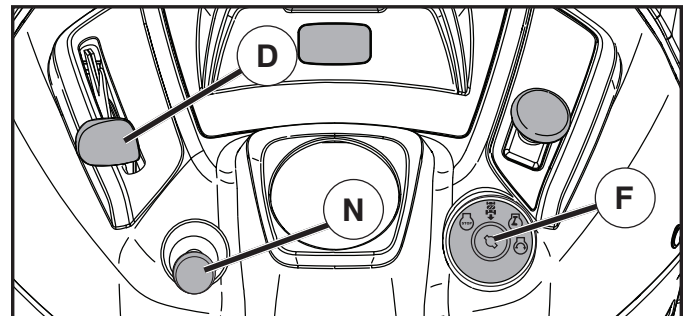

Fig. 23
- Move throttle control (D) to slow position.
- Turn ignition key (F) to "STOP" position and remove key. Always remove key when leaving tractor to prevent unauthorized use.
### TO USE THROTTLE CONTROL (D) (See Fig. 23)
### TO USE CHOKE CONTROL (N) (See Fig. 23)